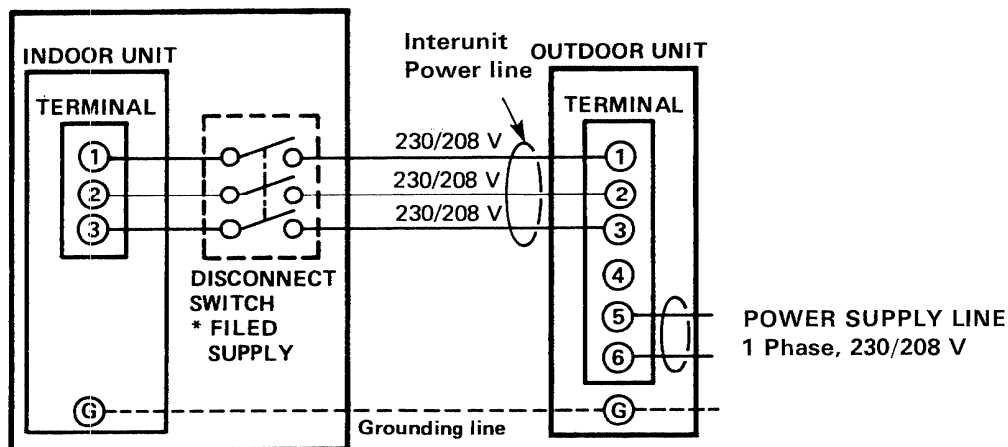

Fig. 6
- Connect interunit control line and power line per drawing on inside of the panel "C". Fig. 6